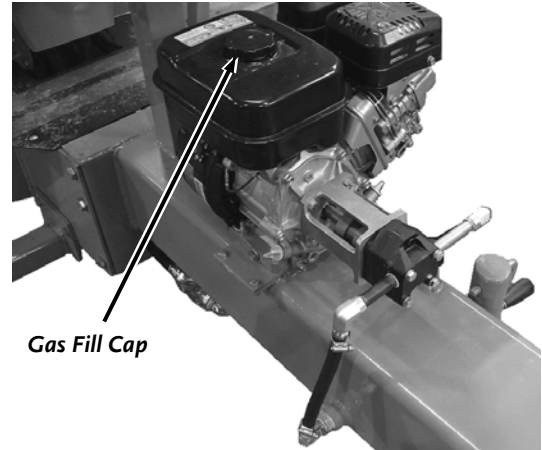

Figure 3
- Remove the Gas Fill Cap and fill the Gas Tank with fresh, unleaded gas (with a minimum of 85 Octane) to approximately 1" to 1-1/2" below the top of the fill neck to allow for fuel expansion (**Figure 3**). Be careful not to overfill and reinstall the Gas Fill Cap before starting the engine. See your Engine Owner's Manual for more detailed information.